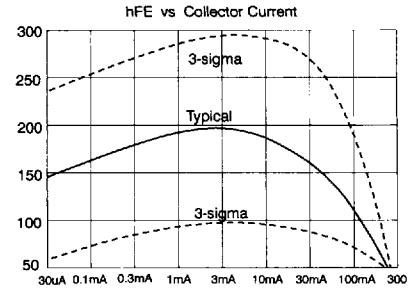

Figure 3
- Current gain = 100 to 300 (Figure 3)